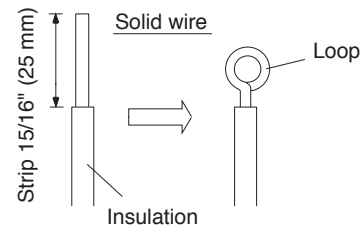

Fig. 27
- (1) Cut the wire end with a cutting pliers, then strip the insulation to expose the solid wire about $15/16$ " (25 mm). (Fig. 27)
- (2) Using a screwdriver, remove the terminal screw(s) on the terminal plate.
- (3) Using the pliers, bend the solid wire to form a loop suitable for the terminal screw.
- (4) Shape the loop wire properly, place it on the terminal plate and fix it securely with the removed terminal screw using a screwdriver.